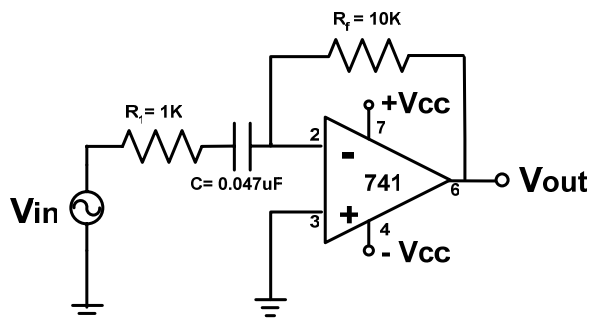

Figure 10: Practical Differentiator
- a. Calculate the high frequency gain and the low break frequency f_L for the differentiator of Fig. 10?
Obtain the frequency response of the differentiator of Fig 10 by varying the input signal from 50 Hz to 50KHz. Record in Table 2 V_{in} and V_{out} for each frequency and calculate the gain at each point. Make sure you obtain enough points around your expected f_L and plot it. Use $\pm V_{cc} = \pm 15V$.
- c. Apply a triangular wave with a frequency of 300Hz to the differentiator of Fig 10 and perform a transient analysis.